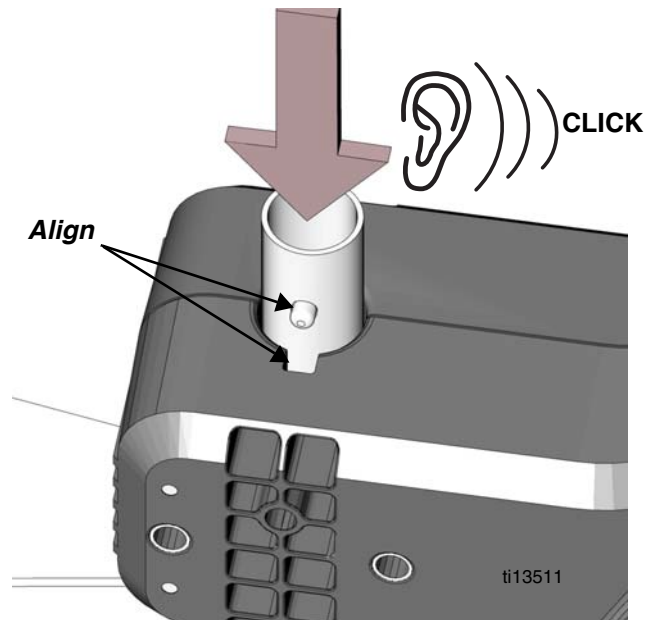

FIG. 25
8. Align spring pin in mounting tube with notch in the hose reel enclosure and slide mounting tube the rest of the way into the hose reel enclosure. Listen for an obvious, audible click, signaling the spring pin is locked in place (FIG. 25).